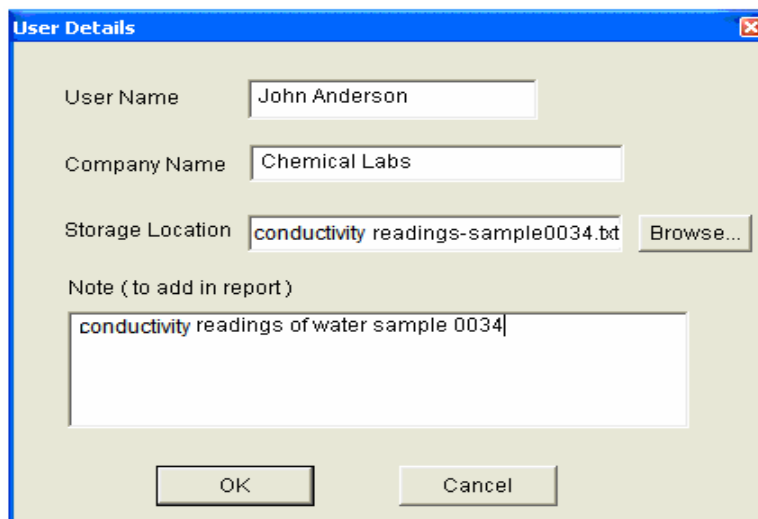

Figure 34 : User Details dialog
2. Click **Save Data** button. **User Details** dialog appears to capture user information, file name and additional notes (if any). (Figure 34)